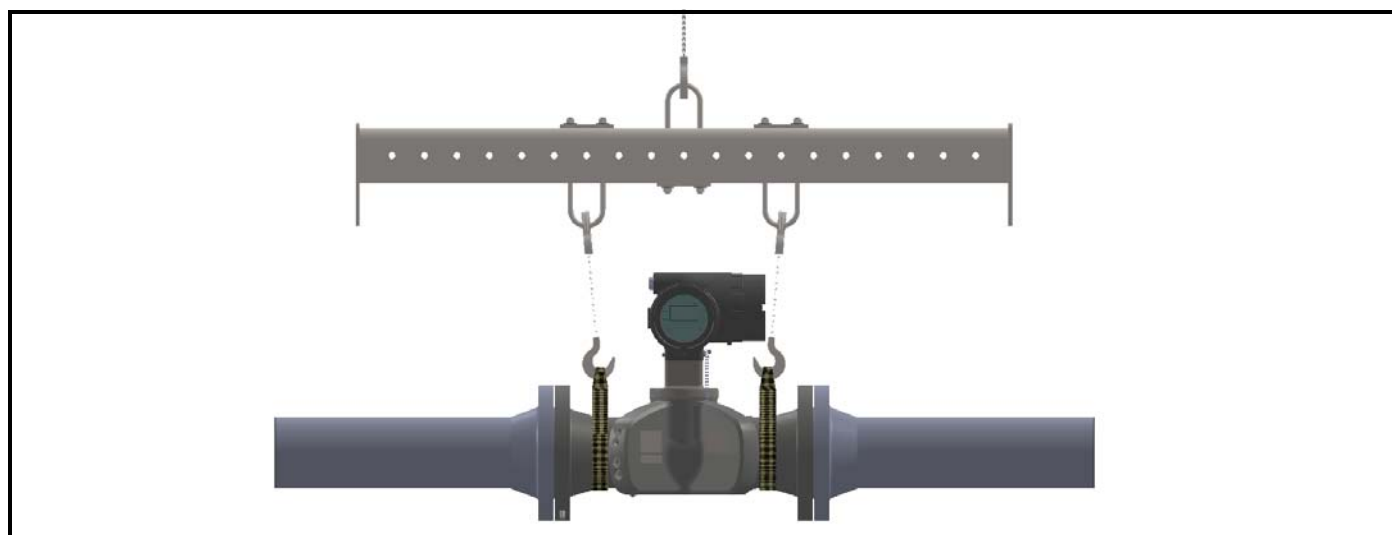

Figure 12: Lifting Strap Locations
**CAUTION!** To avoid possible strain, refer to the **Sentinel LCT4** label for the assembly weight, use a properly-rated lifting assembly, and place the lifting straps in the indicated locations (see Figure 12 below).
- Make sure the **Sentinel LCT4** is oriented with the flow transmitter in a vertical position at the top (see Figure 12 below).